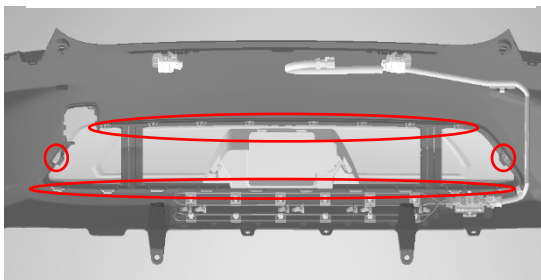

Fig. 11-1
- (a) Install tow hitch lower cover to bumper fascia using the same attach points used to hold lower cover clips seen in step 9-a. (Fig. 11-1).